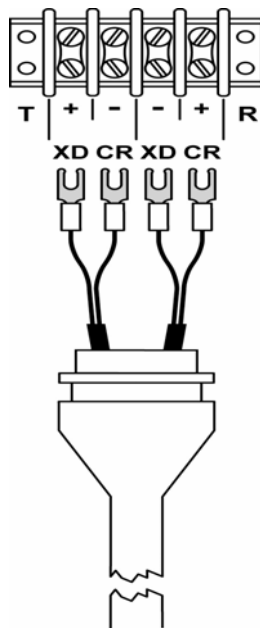

Figure 3
2. Connect the transducer cable terminals to the corresponding terminal block locations within the transmitter. See **Figure 3**.